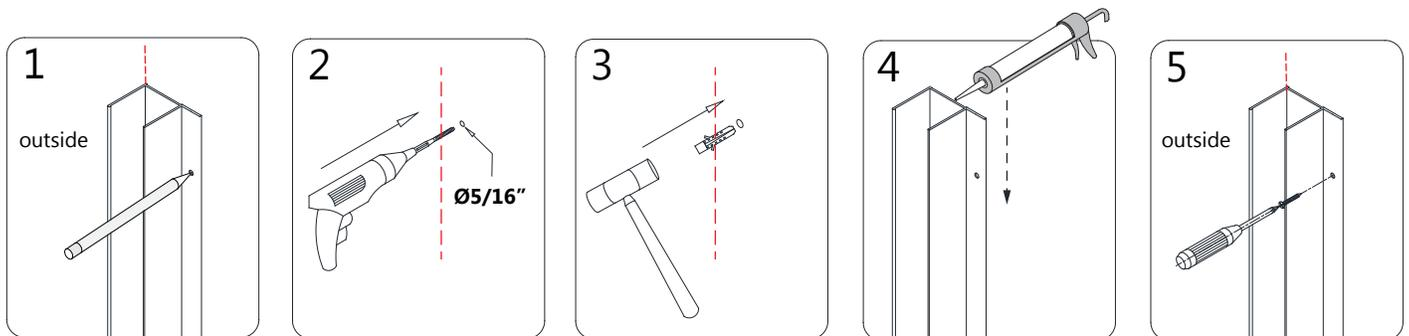

Fig 2
2. Mark the drilling holes on the wall through the predrilled holes in the **Wall Profiles (#01)**. Drill the holes in the wall using a **Ø5/16"** drill bit and insert the **Wall Anchors (#09)**. Run a bead of silicone along the back surface of the **Wall Profiles (#01)** and around the holes in the wall. Attach the **Wall Profiles (#01)** to the wall using the **Truss Head Screw ST4.2×30 (#05)**. **(Fig 2)**